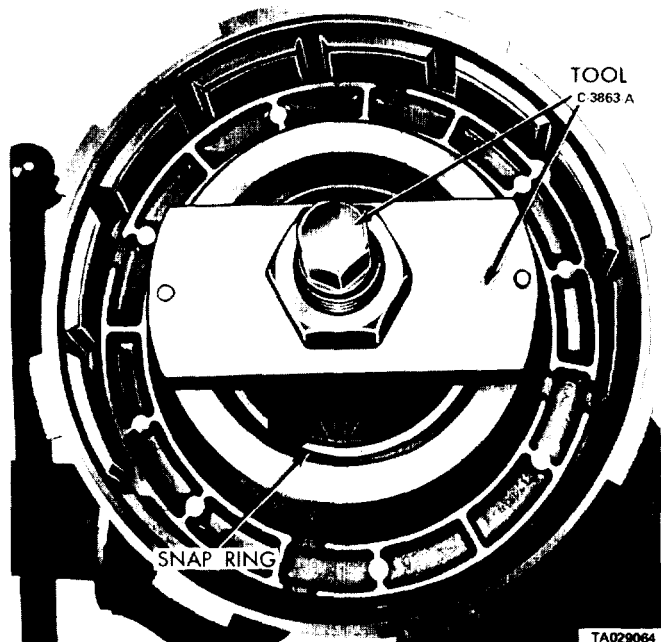
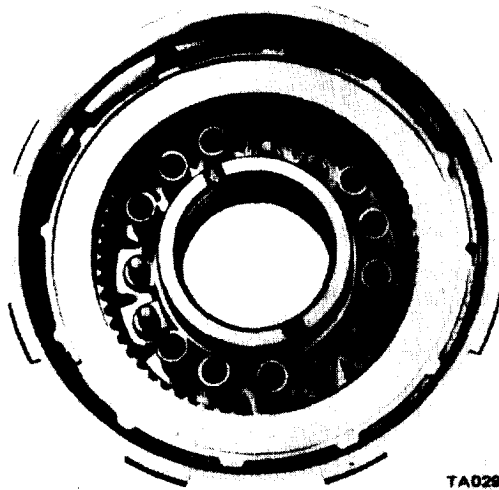

Figure 18-13. Removing or installing Front Clutch Spring Retainer Snap Ring.
Figure 18-15. Front Clutch Spring Location (Nine Springs).
(1) Remove the large waved snap ring that secures the pressure plate in the clutch piston retainer. Lift the pressure plate and clutch plates out of the retainer.
(2) Install compressor tool C-3863-A over the piston spring retainer (figure 18-13). Compress the springs and remove the snap ring. Then slowly release the tool until the spring retainer is free of the hub. Remove the tool, retainer, and springs.
(1) Lubricate and install the inner seal on the hub of the clutch retainer. Make sure the seal's lip faces downward and is properly seated in the groove.
(2) Install the outer seal on the clutch piston with the lip of the seal toward the bottom of the clutch retainer. Apply a coating of non-petroleum-base, wax-type lubricant to the outer edge of the seals for easier installation of the piston assembly. Place the piston assembly in the retainer and carefully seat the piston in the bottom of the retainer.
(3) Refer to "Clutch Data" in table 18-2, and install the springs on the piston exactly as shown in figure 18-15. Position the spring retainer and snap ring over the springs. Compress the springs with tool C-3863-A (figure 18-13), and seat the snap ring in the hub groove. Remove the compressor tool.
(4) Lubricate all clutch plates with transmission fluid. Install one steel plate followed by a lined plate (disc) until the number given in the chart is installed (see table 18-2). Install the pressure plate and snap ring. Make sure the snap ring is properly seated.